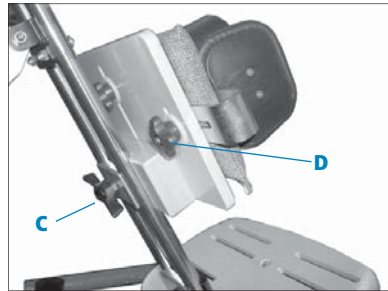

Figure 7b
**Tip:** When replacing the kneeboard, the wooden clamp block goes down, and the slot for abductors up (see Figure 7b).